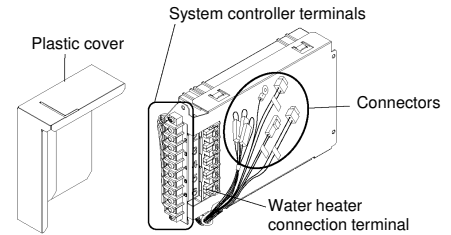

Figure 1: System controller and Plastic cover
- 1) Verify if any options (e.g. Warning Light, Operation Light, Circulation Pump, Exhaust Fan) are utilized (Figure 1). If in use, disconnect the electric power for all options being used.
1. Remove the plastic cover (Figure 1)
* Disconnect all additional wires for each optional item (Figure 1).
* Disconnect all connectors from the system controller (Figure 1).
8) Reconnect any options (e.g. Warning Light, Operation Light, Circulation Pump, Exhaust Fan) (Figure 1) disconnected from step 1).
1) Verify if any options (e.g. Warning Light, Operation Light, Circulation Pump, Exhaust Fan) are utilized (Figure 1). If in use, disconnect the electric power for all options being used.
10) Reconnect any options (e.g. Warning Light, Operation Light, Circulation Pump, Exhaust Fan) (Figure 1) disconnected from step 1).